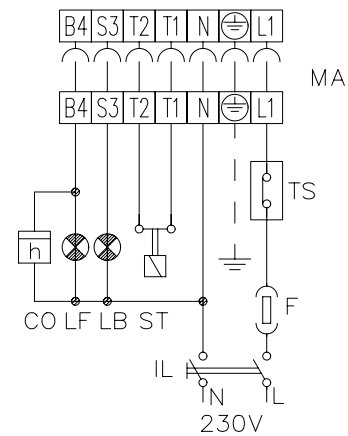

Fig. 6
- Carry out the electrical connections to the power supply connector as shown in Fig. 6.